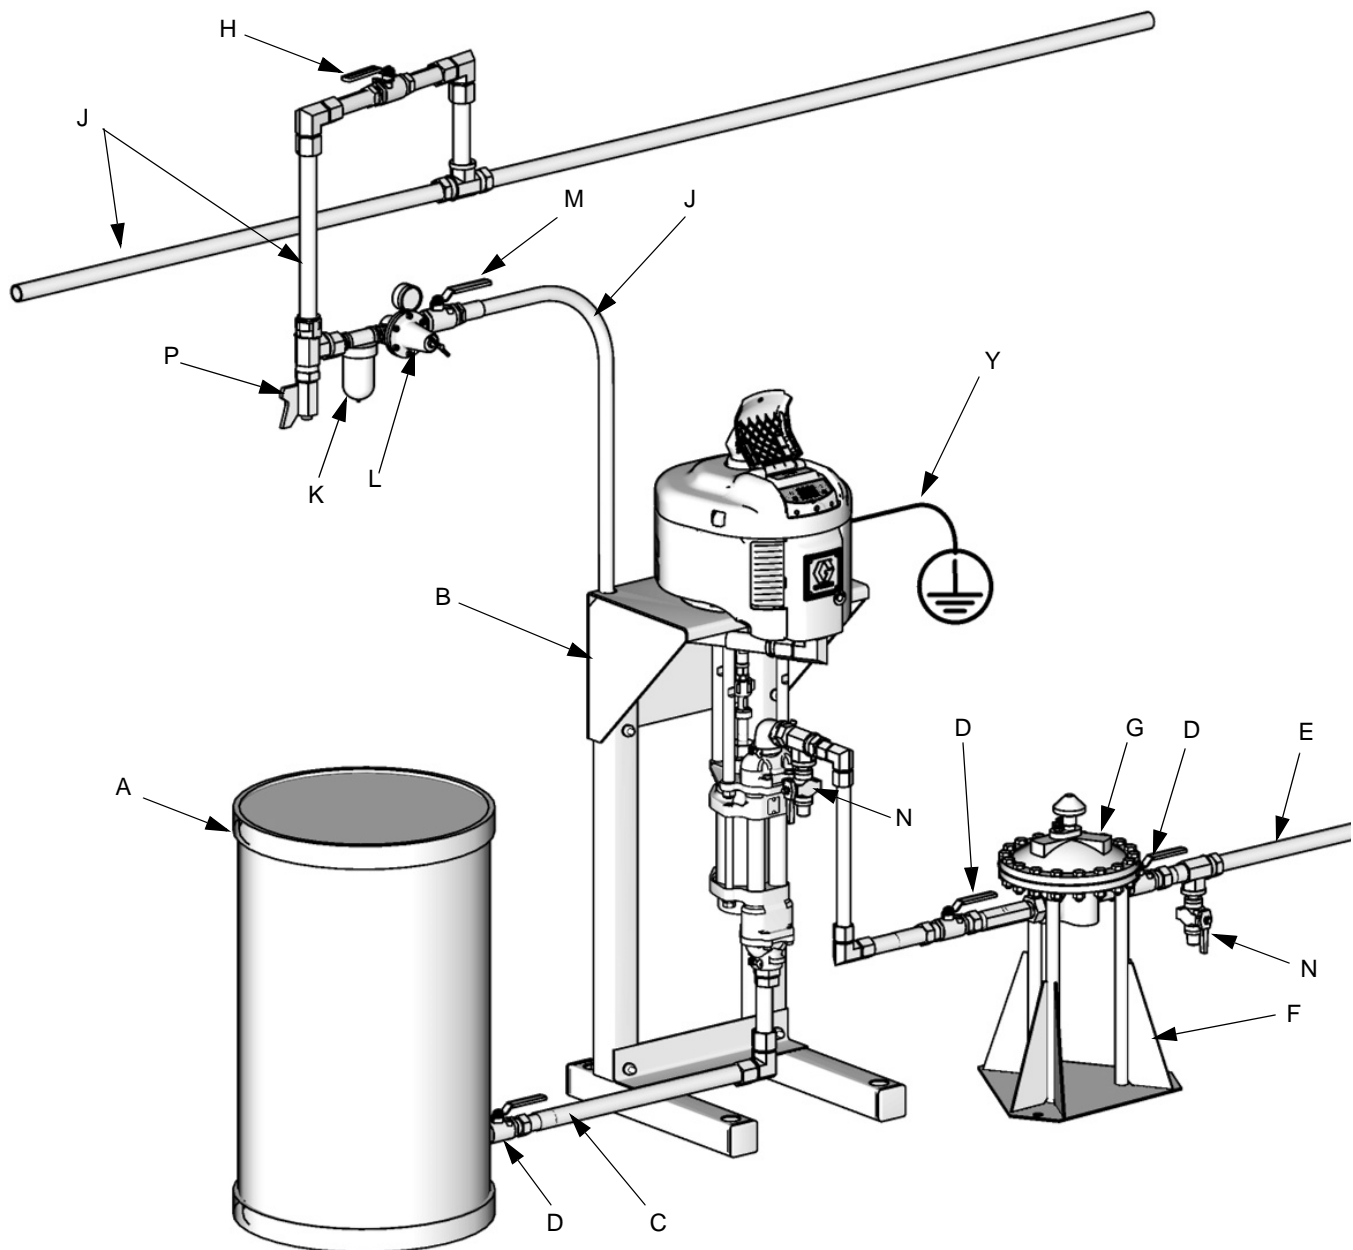
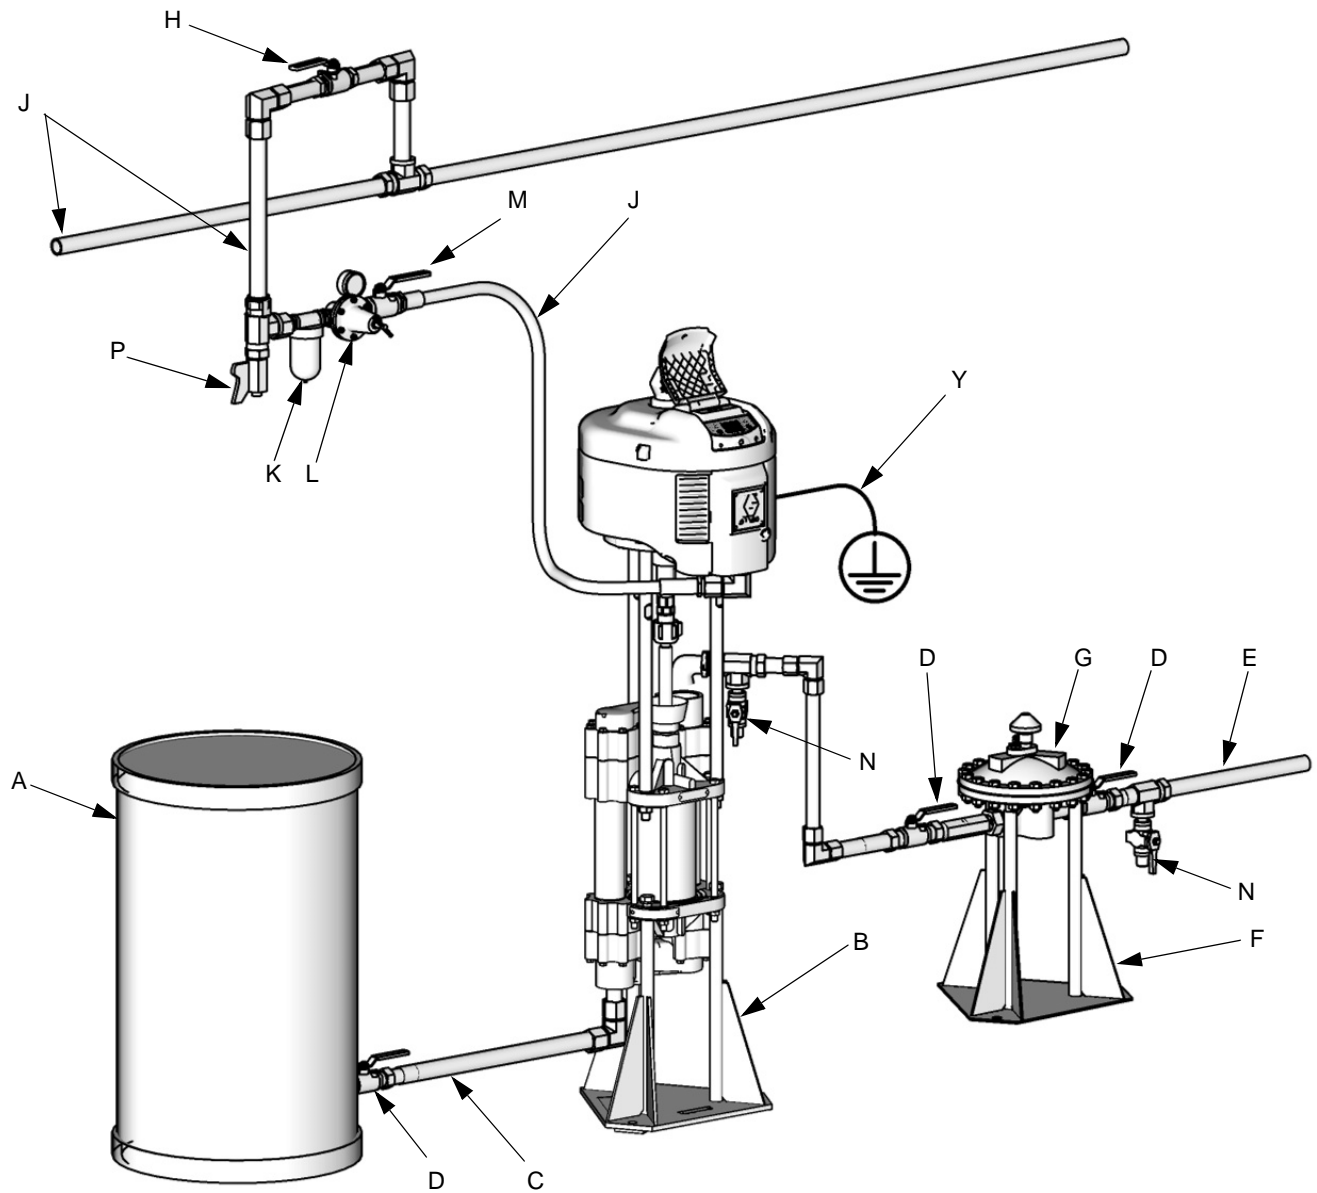

FIG. 2. Typical Installation for Models 24J091, 24J092, 24M673, 24M674
FIG. 3. Typical Installation for Models 24J093 and 24J327
Mount the pump in the accessory pump stand (B). Use Part No. 253692 Stand for Models 24J091, 24J092, 24M673, and 24M674 (see FIG. 2, page 6) and Part No. 218742 Stand for Models 24J093 and 24J327 (see FIG. 3, page 7).
Install the following accessories in the order shown in FIG. 2 and FIG. 3, using adapters as necessary.
See FIG. 2 and FIG. 3.